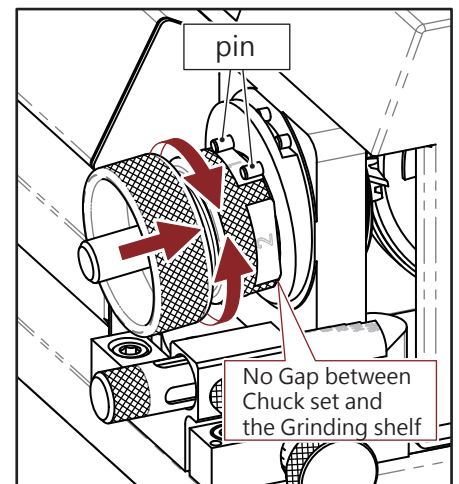

Fig. 8-1
1. Insert the Chuck set into the shelf, the slot of clamping nut must fit with two pins of the shelf, push the Chuck set gently and grinding end mill by turning clockwise and counterclockwise until the grinding noise stops.(Fig. 8-1)